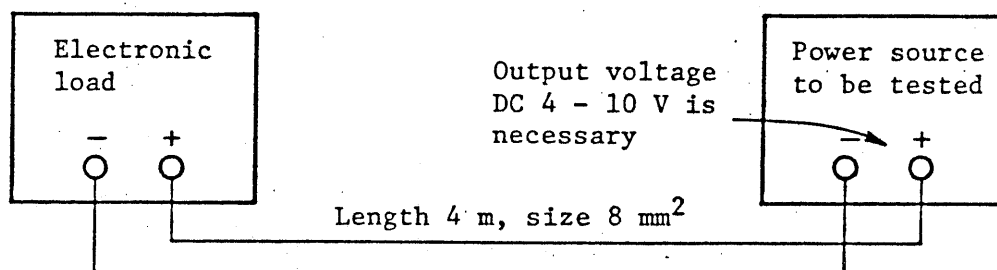

Figure 2-1-4
- ⑮ C.C RANGE. Switch to change the range for constant current mode.
- ⑯ FUNCTION. Either of the following four constant current modes may be selected: EXT (External Voltage Control), INT (Manual Control), SW (Switching Operation), and DC (DC Operation).
- ⑰ PRESET. By depressing this switch, current value or resistance value will be indicated on the digital ammeter depending on the state of the mode switch. At the constant current mode, current value may be preset by either CURRENT I or CURRENT II dial which is selected by the manual switch. At the constant resistance mode, resistance value may be preset by the CURRENT/RESISTOR dial.
- ⑱ PRESET W INPUT POWER. Loading power (watt) is indicated on the voltmeter while power limit value is indicated on the power indicator.
- ⑲ POWER LIMIT. Semi-fixed adjuster to change power limit value. The value may be set by use of the power indicator while depressing PRESET W switch.
- ⑳ CURRENT MONITOR. Current monitor terminals (10 mV/A). At the switching mode, current wave form and switching frequency and duty may be adjusted through an oscilloscope.
- ㉔ Terminal Base. The terminal base is installed for external controls. (See Fig. 2-1-4). Terminals for the following operations are installed: External voltage control and resistance control under the constant current mode; external voltage control, sensing and one-controlled parallel operation; sensing under the constant voltage mode; and external control of the LOAD switch.